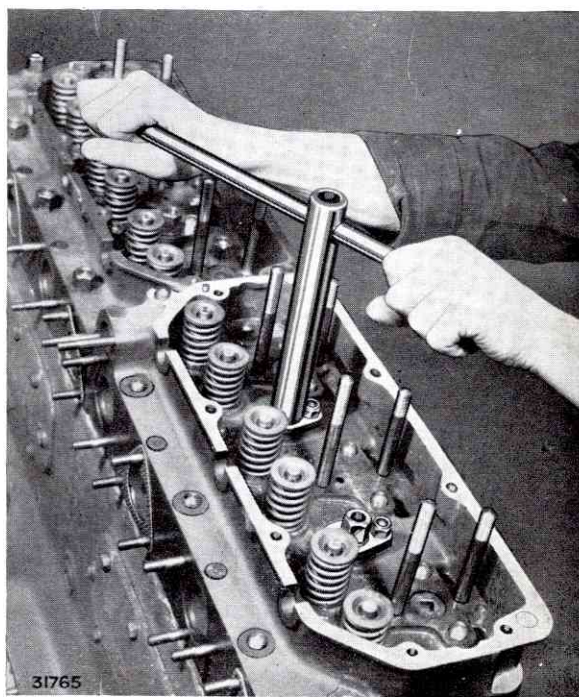

FIG. 16. TIGHTENING LIFTING NUTS
7. Remove all cylinder head nuts and raise the heads by unscrewing the special lifting nuts, Fig. 16. The two lifting nuts are provided for each of the heads to prevent damage to the gaskets when lifting. Both nuts should be screwed evenly as far as they will go, then lift the head off the studs. If the heads are tight on the studs, a further lift can be obtained by screwing long $\frac{1}{2}$ in. (12.7 mm.) B.S.F. bolts into the lifting nuts.